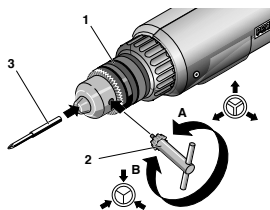

Fig. 2
Insert the drill chuck key 2 (Fig. 2) into the drill chuck (1) and turn in direction „A“ to open the chuck.